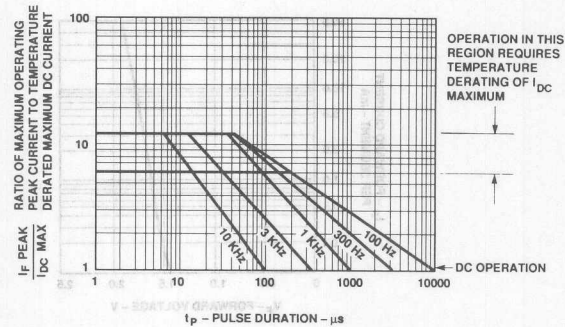

Figure 1. Maximum Tolerable Peak Current vs. Pulse Duration - Red.
1. See Figure 1 to establish pulsed conditions.